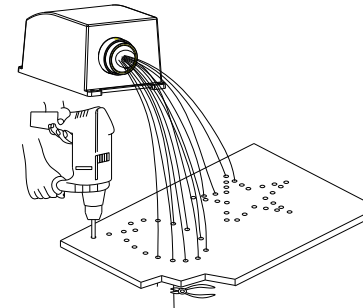

Fig. 2
- (1) Drill holes on the installing board according to the design. Then insert the fiber optic string into holes and fix it with epoxy glue. Trim the end of the fiber string to be flush with the board or at a required length. Fasten the other end of the fiber string to a harness and insert the harness into PG Connector and Fiber Connector. Apply the hot knife to cut fiber end flush with the Fiber Connector. (See Fig.2).
- (2) Insert the finished Fiber Connector into the Fixing Flange and screw tightly the screw.